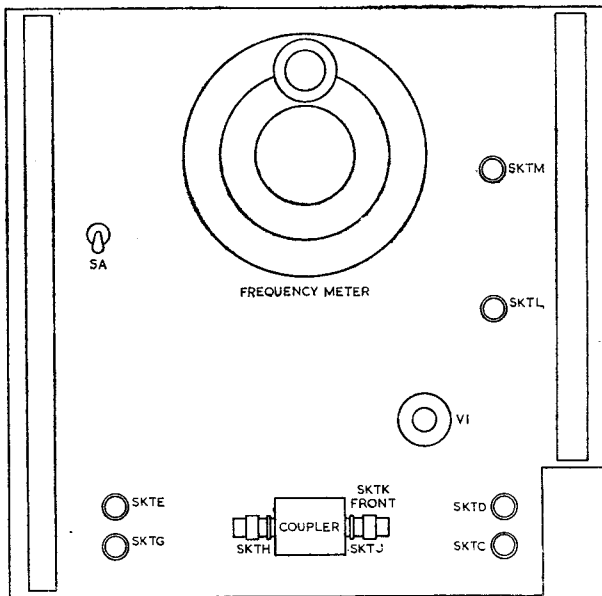

Fig. 1. R.F. wavemeter: front view
1. The r.f. wavemeter (fig. 1) is used on the radar Type 84 transmitter/receiver to perform the following functions:—
3. The mechanical construction and layout of the unit can be seen from fig. 1 and 2. The unit is mounted on the left-hand cabinet gate at position 2B. The overall dimensions are  $15\frac{1}{2}$  in.  $\times$  15 in.  $\times$  9 in., and the approximate weight is 11 lb.